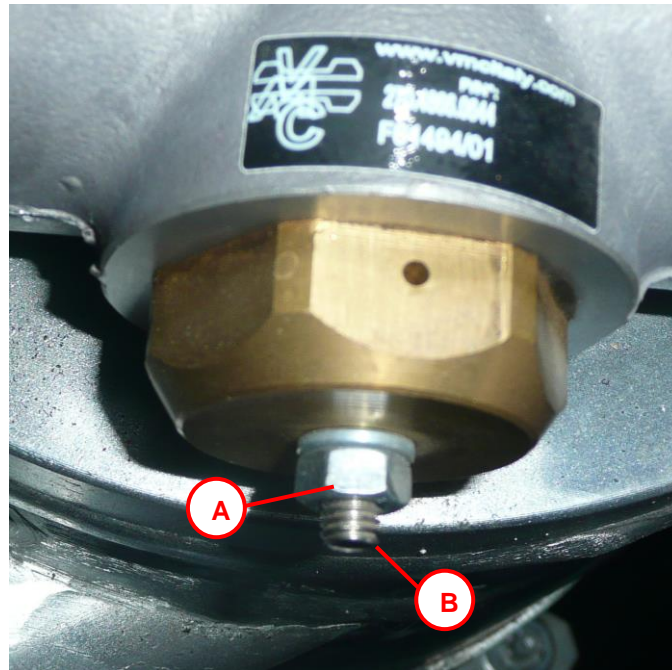

Figure 11.3-1 Adjusting minimum pressure pneumatic circuit
5. Unscrew, with 10 mm wrench, nut (Letter A Figure 11.3-1) located in the vicinity of the exhaust cleaner. Please Translate These points.
6. If you want to increase the maximum pressure must tighten the Allen screw (Figure 11.3-1 Letter B) with Allen key 3 mm;
7. If you want to reduce the regime min loosen the Allen screw (Figure 11.3-1 Letter B) with Allen key 3 mm;
8. Once the adjustment screw, with a 10 mm wrench, nut (Letter A Figure 11.3-1) and turn off the taps;